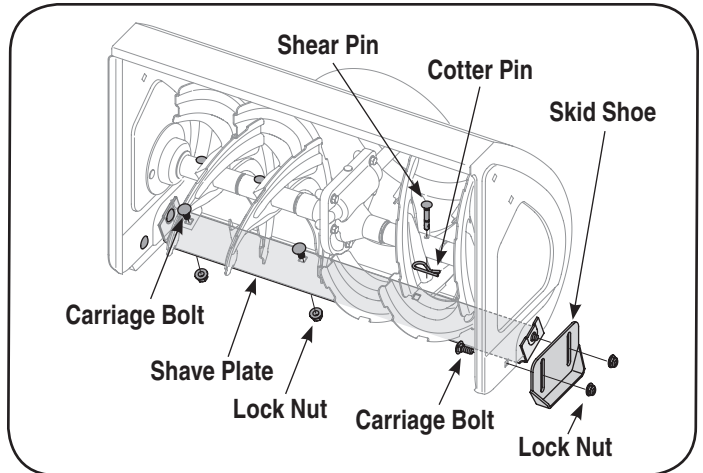

Figure 10
1. To replace, remove two carriage bolts and nuts securing each skid shoe to the auger housing. See Fig. 10.
3. **To remove shave plate:** Remove both skid shoes and hardware including carriage bolts and nuts which attach shave plate to the snow thrower housing. For location of shave plate, see Figure 10.
The augers are secured to the spiral shaft with four shear pins and cotter pins. If you hit a foreign object or ice jam, the snow thrower is designed so that the pins may shear. Refer to Figure 10.